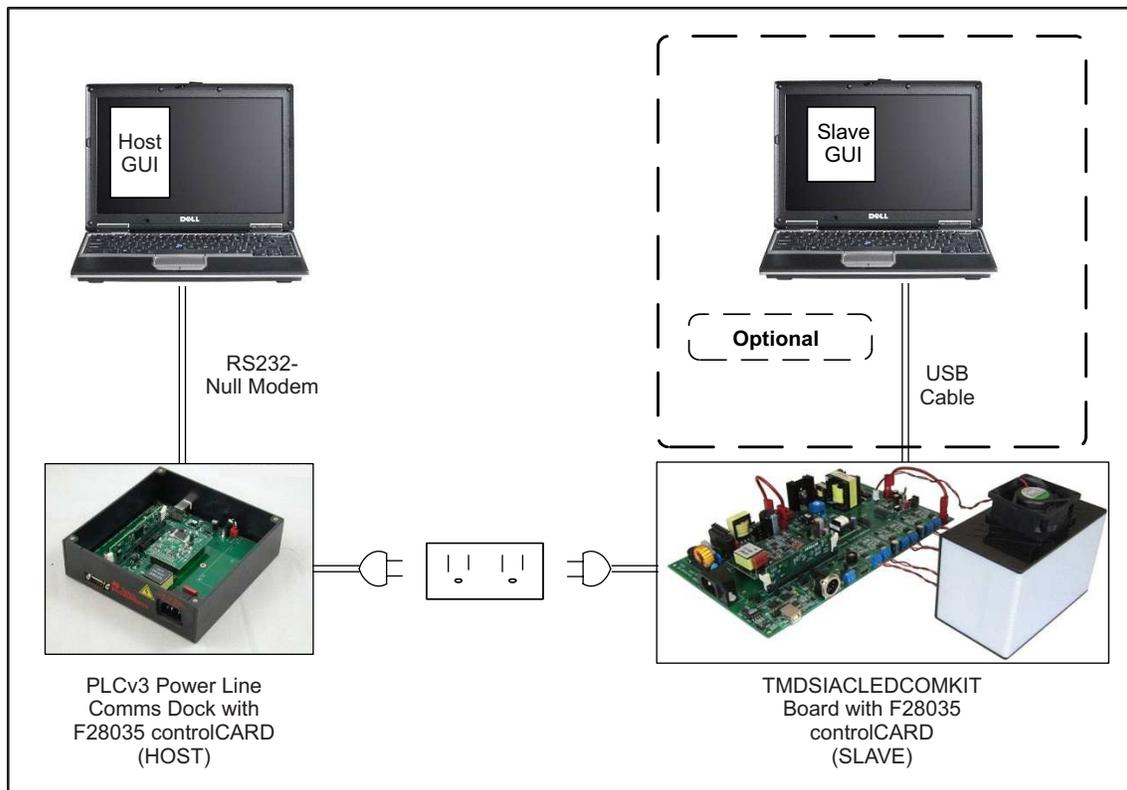

Figure 2. PLC System Diagram
1. Move or place the following jumpers on the TMDSIACLEDKOMKIT board (see Figure 2):